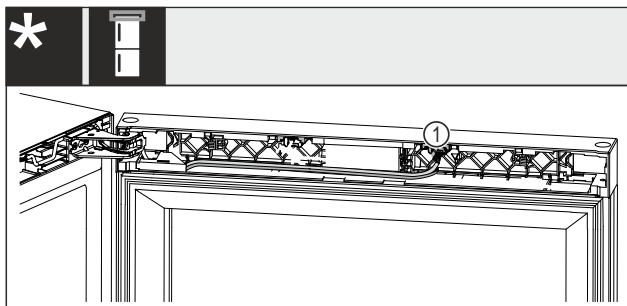

Fig. 23 Wine-freezer combinations*
- ▶ Pull the plug Fig. 23 (1) out of the retaining clip.*